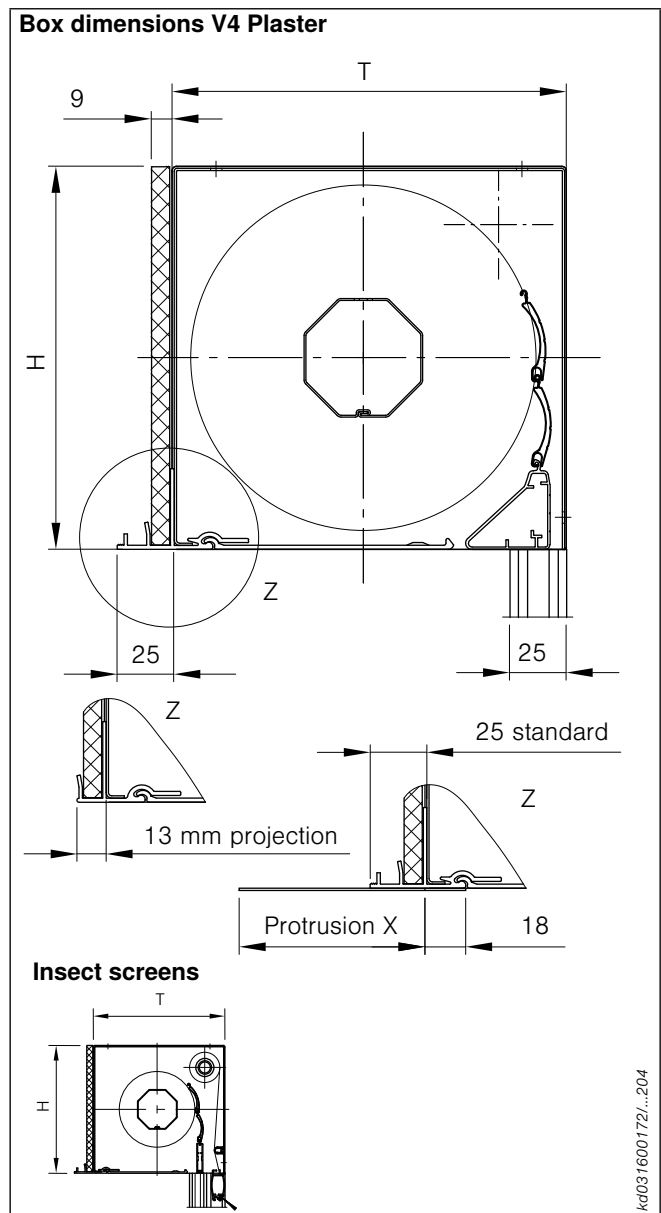

Fig. 8: Box dimensions V4 plaster
- for a composite thermal insulation system the distance of the plaster base profile should be set to 13 mm (see Fig. 8). Please indicate on the order.